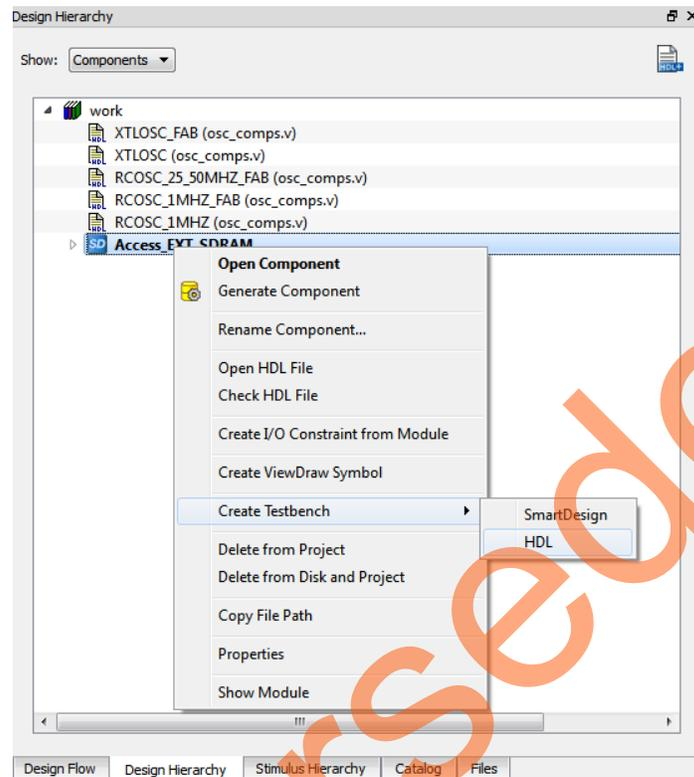

Figure 28. Create Testbench – HDL
1. In the **Design Hierarchy** tab, right-click **Access_EXT_SDRAM** and go to **Create Testbench > HDL**, as shown in **Figure 28**.